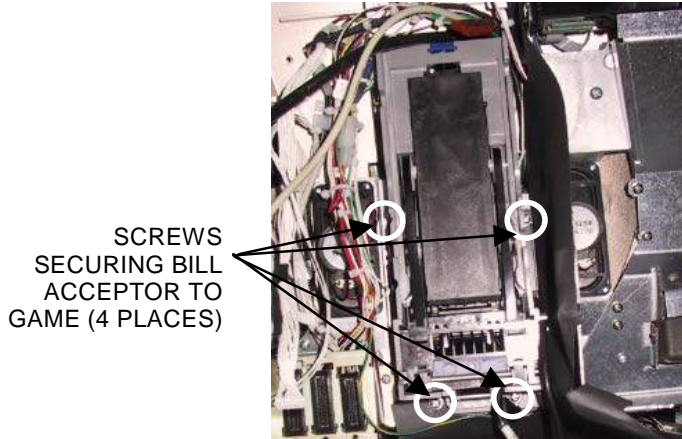
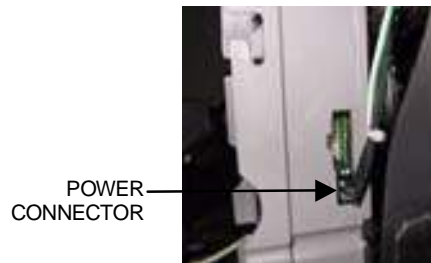

FIGURE 7 - BILL ACCEPTOR WITH MAGAZINE REMOVED
FIGURE 8 - POWER CONNECTOR ON SIDE OF BILL ACCEPTOR
10. Disconnect the power connector (green/white/black wires) from the side of the bill acceptor. See Figure 8.
3. Attach the power connector to the new bill acceptor (see Figure 8). This connector can only be connected one way. Secure the new bill acceptor assembly to the game with 4 screws. See Figure 7.